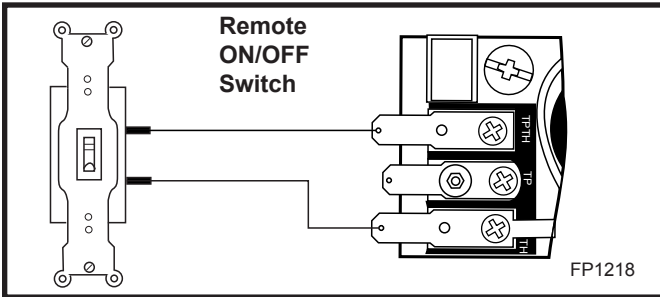

Fig. 7 Remote switch wiring diagram for millivolt models.
3. Connect wiring to gas valve. (Fig. 7)